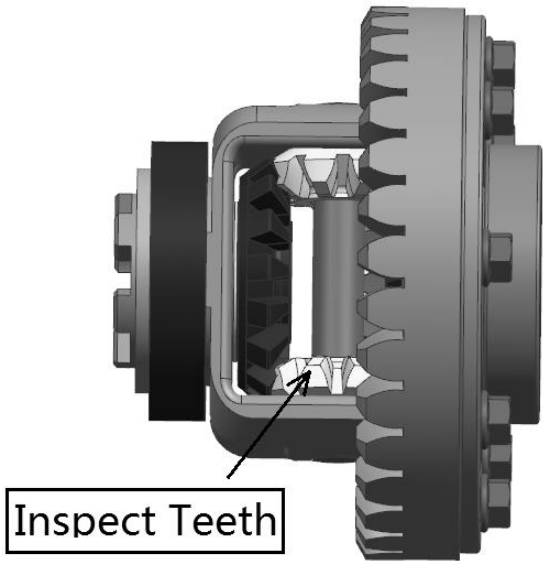

Fig 7
Important: Do not disassemble the differential assembly (B). Replace as an assembly if damaged or worn. →Fig 7